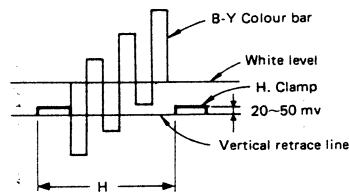

Figure 2.
3. Adjust LM53 so that the white level in picture part reaches to the vertical retrace line. (See figure 2.)